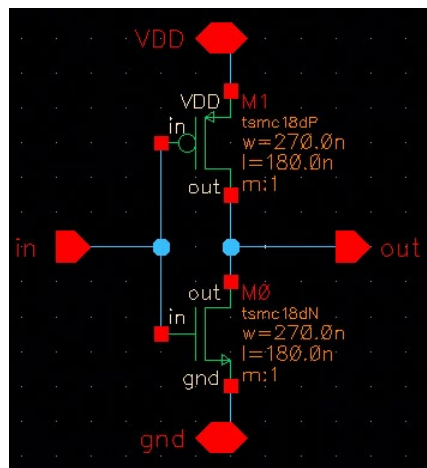

Figure 7. Window view for step 10.
10. You will now create the I/O ports. Press 'p' and enter the pin creation window as shown in the figure. You can also enter this mode by going to 'Create->pin'. Type 'in' in the 'name' text box and choose 'input' as the direction. Then click on any empty space in the schematic editor to place a port 'in'. Create port 'out' as output, 'VDD' and 'gnd' as **InputOutput** and connect them to the inverter you just built. The final circuit is shown in Figure 7.